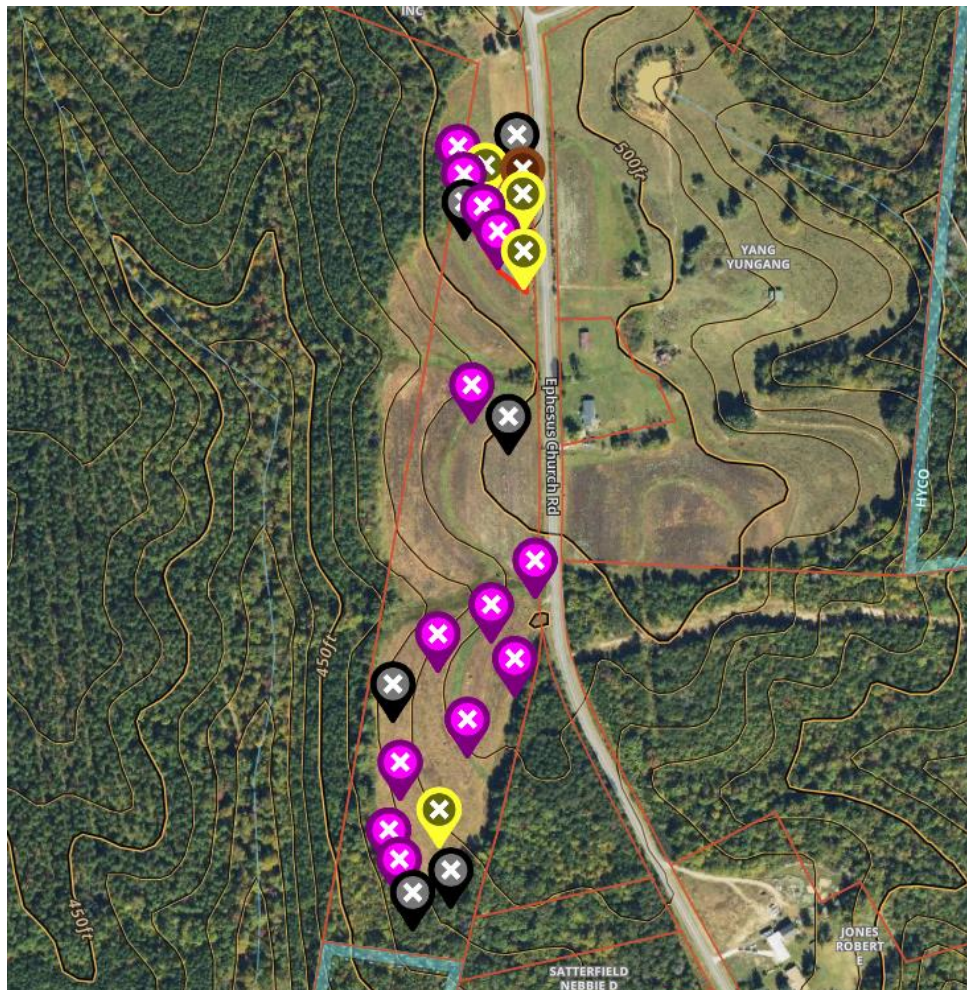

Figure 3. Soil pit locations within the lot as located by the onX Hunt application.
Over 25 soil pits and observations were advanced on the parcel as seen in figure 3 below. Their depths of suitable soils categorized the soils. The brown and yellow dots represented soils that were 20 inches and 18–19 inches, respectively to a limiting condition (LC). The purple dots were soils that were 13–17” to a seasonal high–water table (SHWT) or LC which. All of the soils were variants of the Halifax Soils. The black dots are soils <12 to the LC and were the Orange Soils. The limiting condition was various depths to horizons with expansive mineralogy, rock, and or the SHWT. The recommended LTAR (long term acceptance rate) for the Halifax soils are 0.05 gallons per day per foot squared (GPD/ft²) for an advanced pre–treatment to drip system.